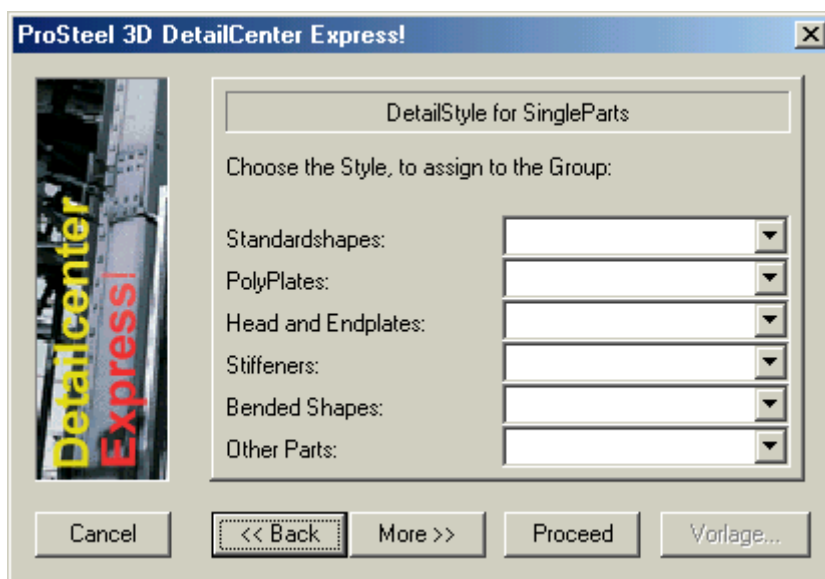

Fig.31
3. To use this centre just tick the options that you want and go to “More”, filling out the options as you go. Once you get to the “*DesignStyle for SingleParts*” Fig. 31, place the styles that you want for your individual part. ProSteel comes with Detail Styles that should suit these selections and are named similar. However as discussed earlier they will need to be edited and saved. The same will apply with the rest of the Centre.